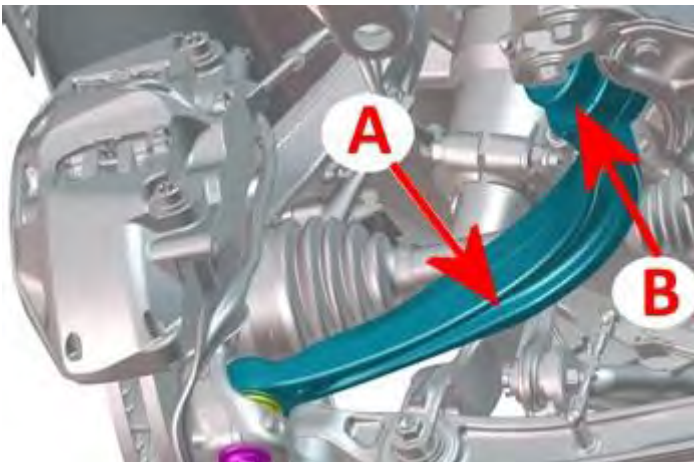

Figure 1
Figure 1 shows for example the left hand front rear most lower suspension lever (A) the hydraulic mount which must be changed is located at (B)